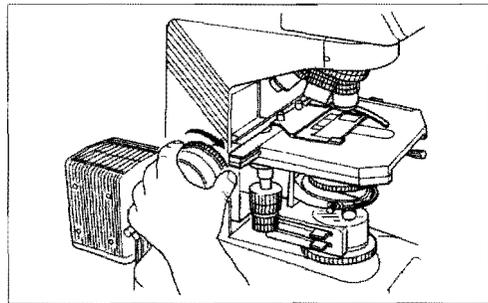

Fig. 5
- Turn the refocusing stopper clamp ring and clamp it at the position where the specimen is focused. It is clamped at the position where the black delta mark (▲) on the side of the clamp ring reaches the top (Fig. 5).